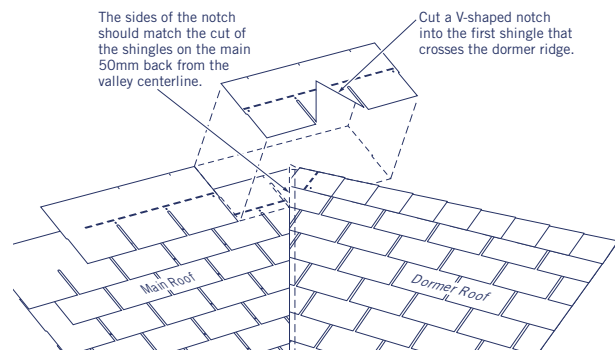

Figure 9-9: The V-notched shingle being fitted over the dormer ridge
3. Cut into the first shingle that crosses above the ridge of the dormer a V-shaped notch that fits over the ridge of the dormer. The sides of the notch should match the cut of the shingles on the field of the roof that were cut back at the valley centerline. Cut this notch into the headlap area of the shingle. Shingles on the right side of the dormer should be applied so that course pattern and horizontal alignment conform to the position of the V-notched shingle (Figure 9-9).